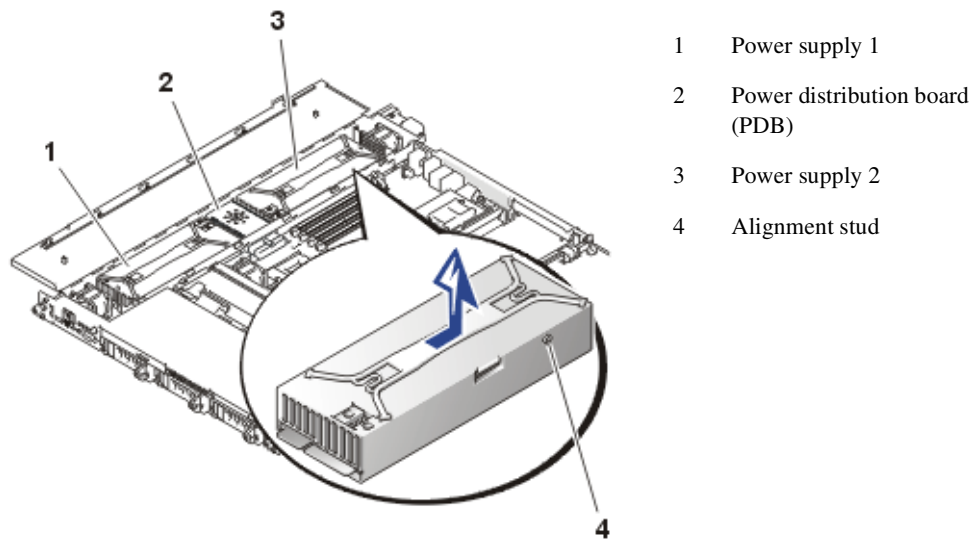

Figure 4-4: Replacing a Power Supply
3. While grasping the power supply handle, slide the power supply 0.75 inch (2 cm) away from the PDB, and then lift the power supply out of the chassis (see Figure 4-4).
4. To install the replacement power supply, align the stud on the side of the power supply (see Figure 4-4) with the corresponding notch in the chassis, and then lower the power supply into the chassis.